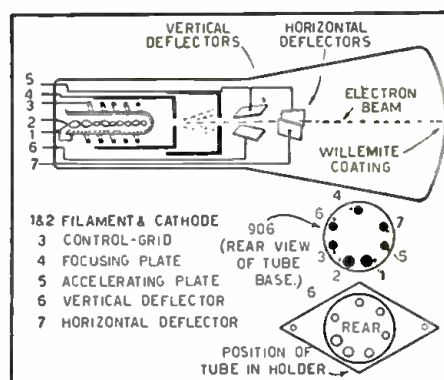

Fig. 2. The 7 elements of the modern oscilloscope tube, in detail.
The 7 elements are as follows (refer to Fig. 2): (1) filament; (2) cathode; (3) control-grid; (4) focusing plate;